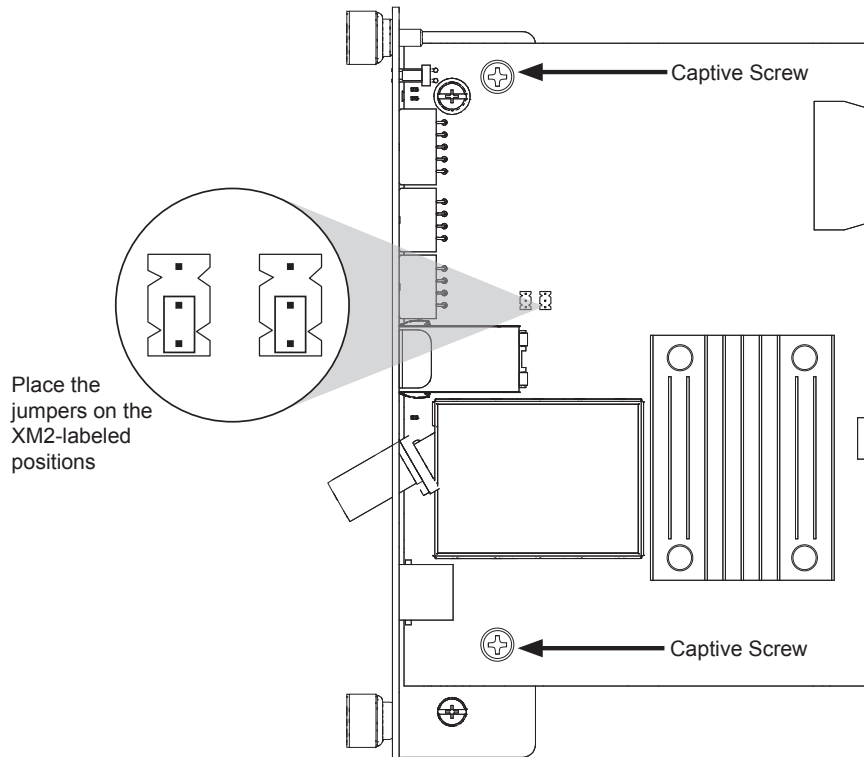

Fig. 1, Captive Screw Locations and Jumpers
6. Verify the Jumpers (J10 / J11) on the DM3X transponder are in the correct position for an XM2 installation (Fig. 1).
8. Fasten the transponder to the Inverter Module by tightening the two captive screws (Fig. 1). It is recommended that the screws be tightened alternately, a few turns at a time, so the transponder aligns in parallel to the Inverter Module.